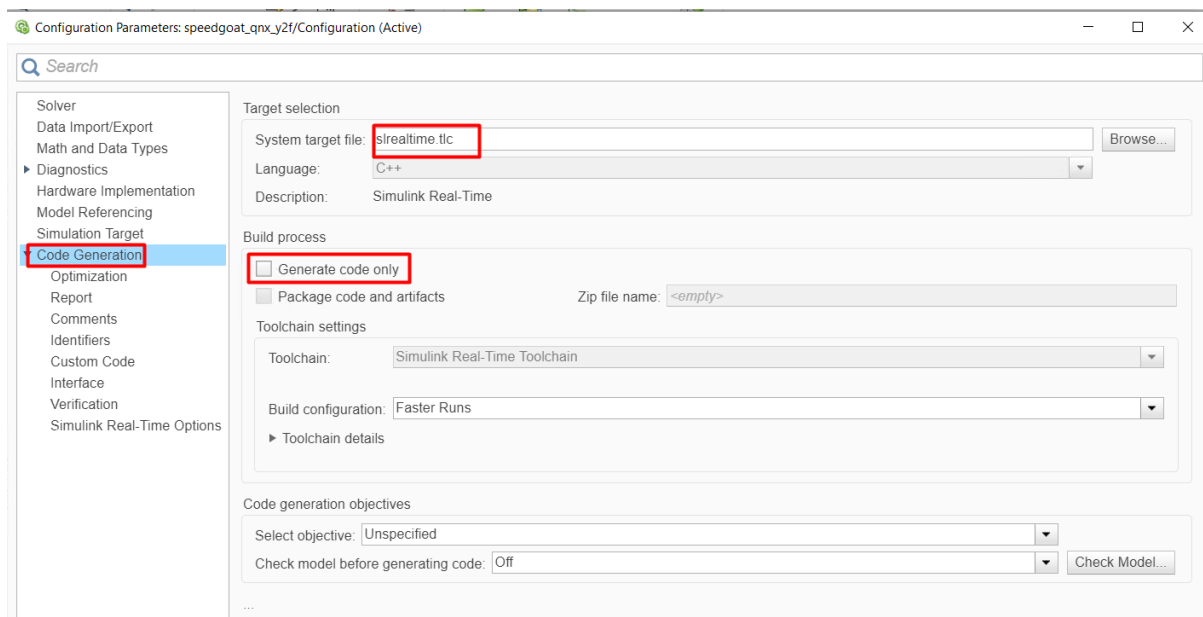

Figure 13.109: Set the Simulink code generation options.
8. (Figure 13.109) In the “Code Generation/RTI general build options” tab, set the options: